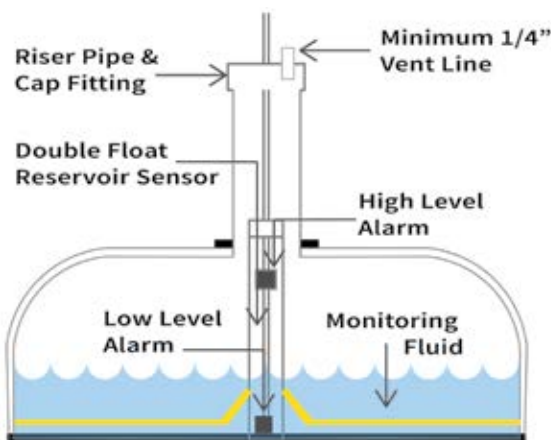

Figure 17: Wet Interstice - Liquid Level System
- ✓ When installing a double float sensor, the bottom of the sensor must be in contact with the Tank top, refer to Figure 17.